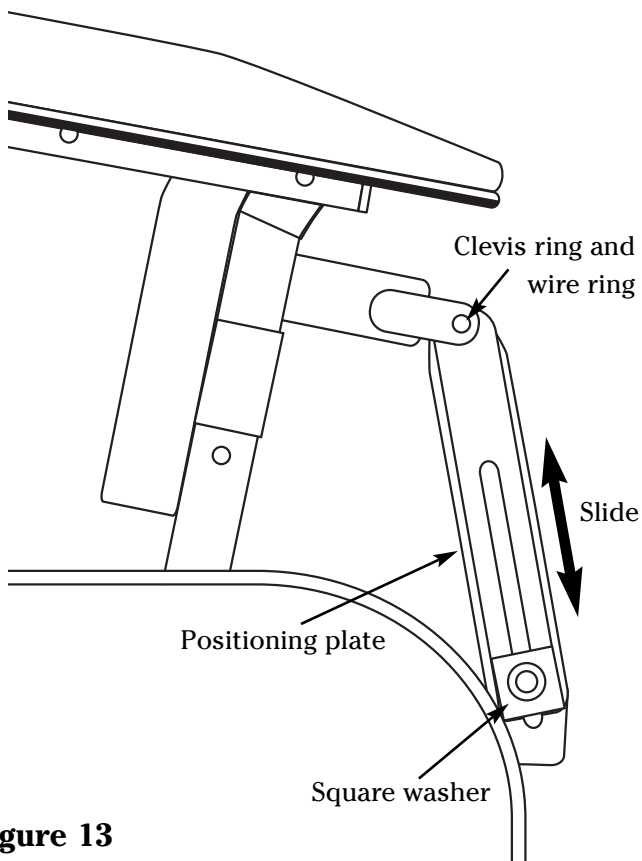

Figure 13
NOTE: The position mechanism is factory set. If the position mechanism does not hold, follow Adjustment Instructions for the position mechanism. The plate has 5 position marks for repeatable positions (See fig. 13).
1. Turn the position adjustment handle down to the release position, and remove clevis pin and wire ring from top of assembly. (See fig. 13).
2. Slide positioning plate up, and turn square washer clockwise until snug (See fig. 13).